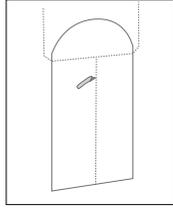

fig. 29
- a. Make a horizontal cut 2" above the mull joint and flush with the bottom rough sill. (fig. 29)